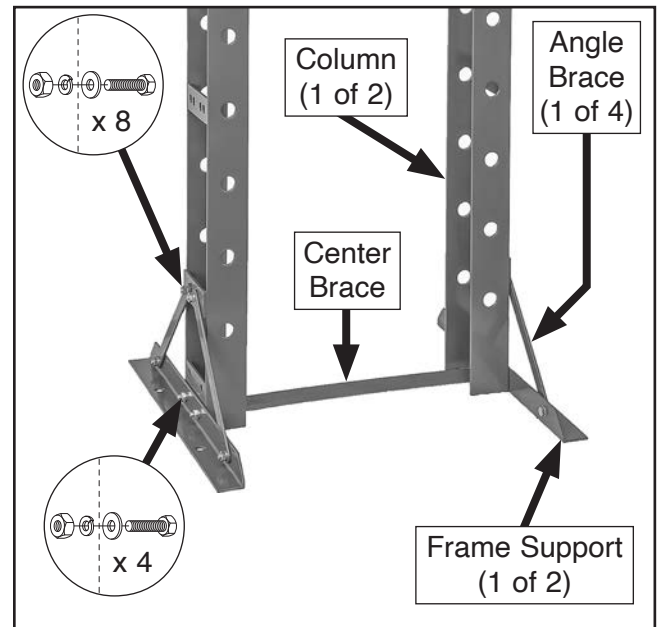

Figure 5. Frame components installed.
2. With help from an assistant, stand (2) columns upright and attach (2) frame supports and center brace using (4) M10-1.5 x 35 hex bolts, 10mm flat washers, 10mm lock washers, and M10-1.5 hex nuts (see **Figure 5**). Do not fully tighten fasteners at this time.
3. Attach (4) angle braces to frame supports and columns using (8) M10-1.5 x 35 hex bolts, 10mm flat washers, 10mm lock washers, and M10-1.5 hex nuts (see **Figure 5**). Do not fully tighten fasteners at this time.